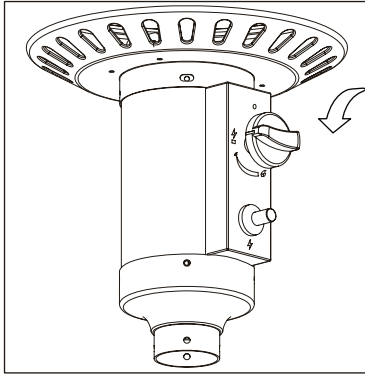

Figure 3
- Push in control knob and turn counterclockwise to “PILOT” () (**Figure 3**).